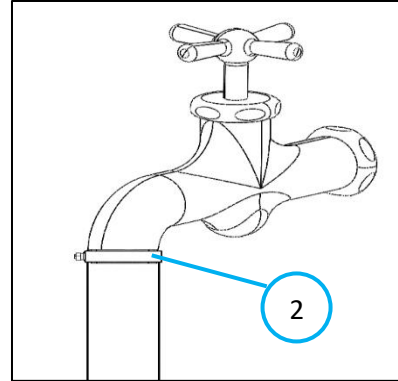

Fig. 3
2. Attach the hose inlet to a tap by pushing its rubber end onto the tap and tightening the hose clip (Fig. 3).